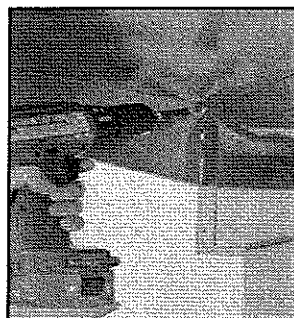

Fig. 11
2. Lock the shelves in place by inserting (2) self tapping screws into each shelf. (See Fig. 11)